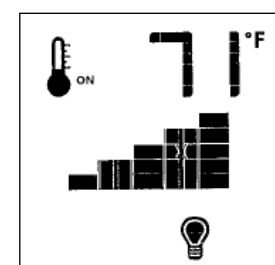

Fig. 15.18. Lamp ON.
- Pressing the Up Arrow Key will turn the Lamp ON. Press the arrow keys to adjust the brightness. Fig. 15.18.